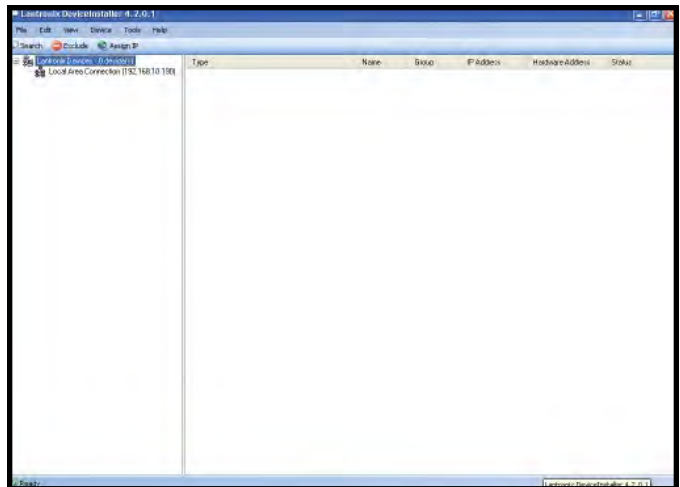

Figure 85. DeviceInstaller home screen
- I. Open the Lantronix DeviceInstaller program. The home screen will open (see Figure 85).